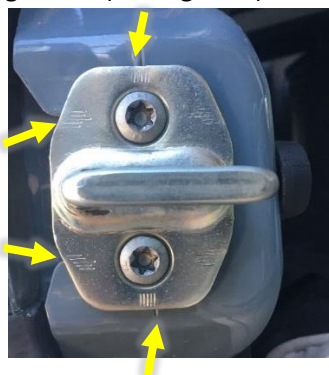

Figure 1: Factory Latch Alignment
3. Take a picture of the center, inside latch for later re-alignment (see Figure 1).
16. Install the inner driver door bracket while re-aligning latch pin as close as possible to factory position (use previously taken picture as a guide, reference Figures 1 & 5).
32. Loosely install the bolt-on tire/box supports onto the bottom crossmember of the rack as shown in Figure 1.